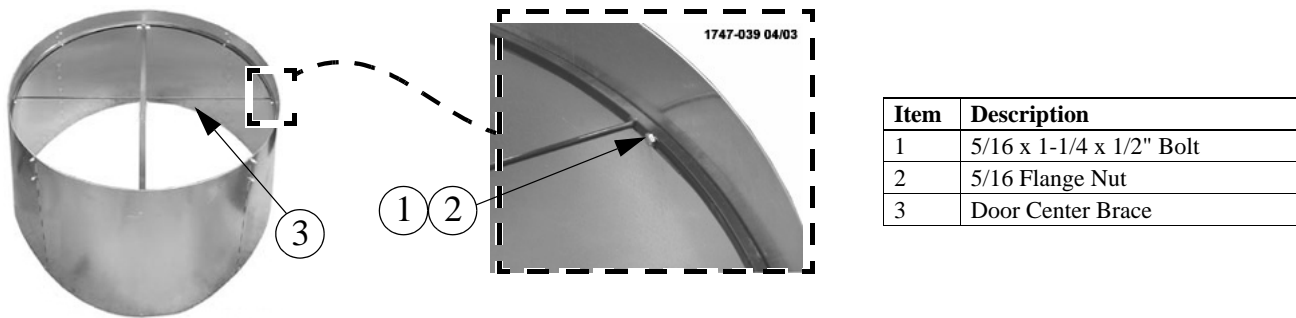

Figure 6. Attaching the Ring to the Cone
Use (2) 5/16 x 1.25" Bolts (**Item 1, Figure 6**) and 5/16 Flange Nuts (**Item 2**) to attach the Ring to the Cone using the Holes located on both sides near the Door Center Brace as **shown below**. *Note that the Nuts go on the outside of the Cone.*